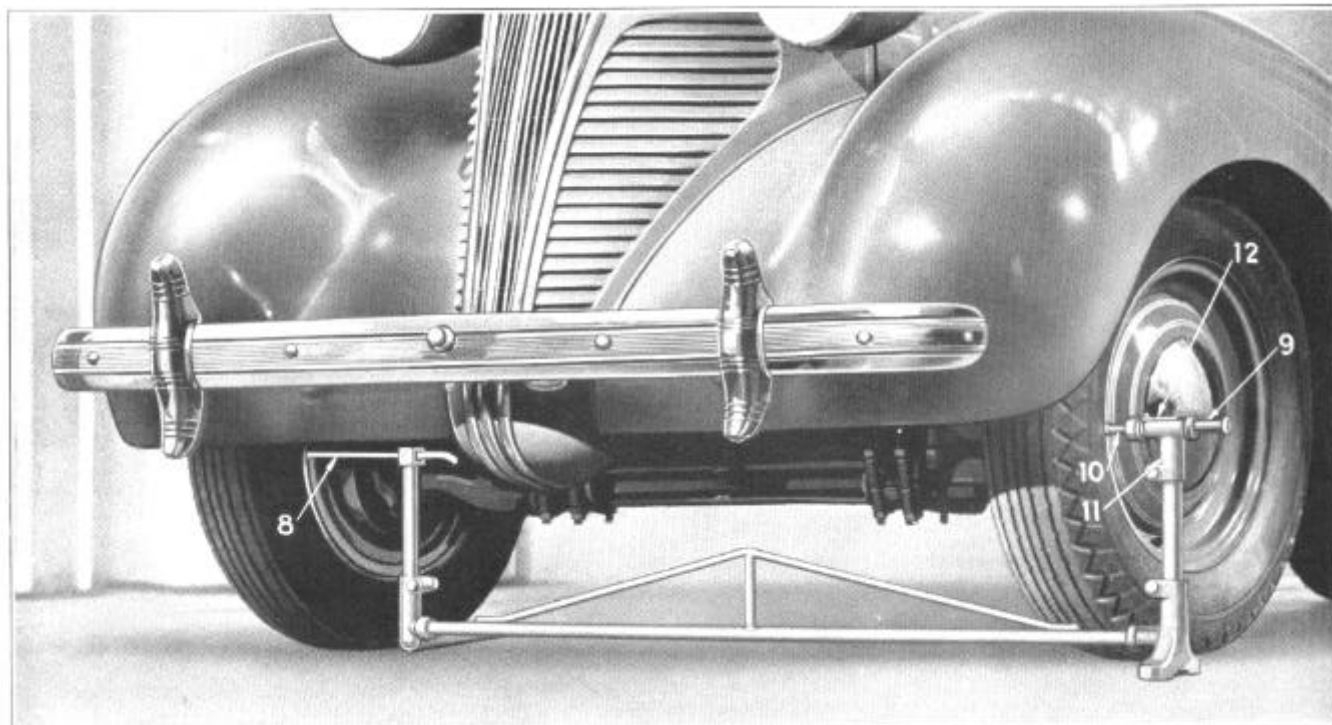

Figure 18
137. Place toe-in gauge back of front wheels with rod (8, Figure 18) against inside felloe band of right wheel and end of sliding head (10) against outside edge of felloe band of left wheel. (See Figure 18.)
138. Be sure thumbscrew of both sliding head and rod are tight. Move sliding collar, to which scale 12 (Figure 18) is attached, out against standard bracket (11). Make a chalk mark on tire in line with sliding head.
140. Put toe-in gauge in place as in Figure 18 with rod (8) against inside edge of right felloe and sliding head (10) in line with outside edge of left felloe at chalk mark on tire. (See Figure 18).